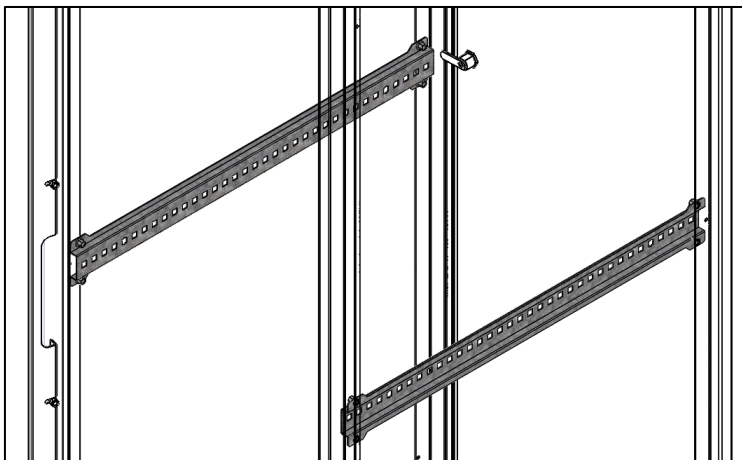

Figure 17
Place the middle horizontal bars as shown on the **Figure 17** and tighten with M6x12 Flanged AKC Screws (E)